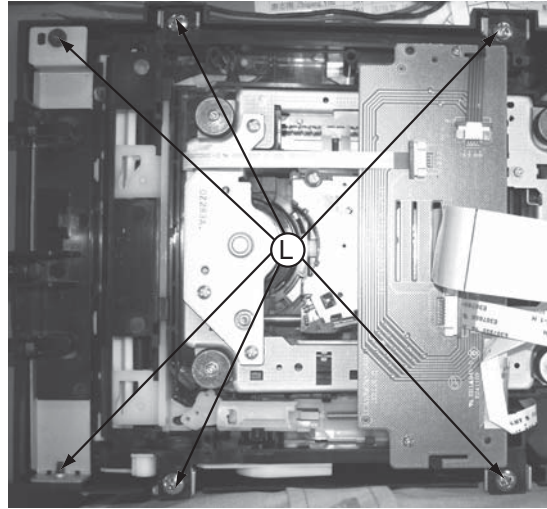

Figure 12
- 1) Loosen 6 screws "L" as shown in figure 12.